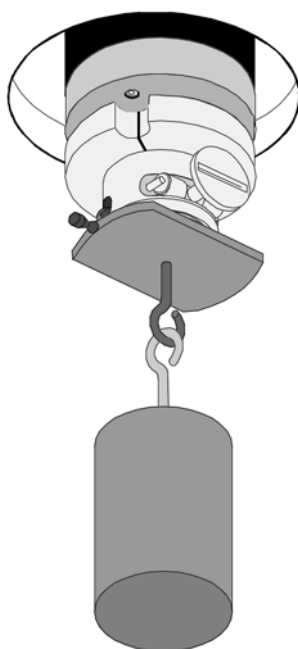

Figure 5-6. Applying Normal Force Using the Calibration Weight.
**NOTE:** Do not hang any weights until after at least one (1) zero reading has been taken.
8. Hang the weight specified in Table 5-4 (depending on the transducer in use) from the hook on the bottom of the calibration tool (Figure 5-6). Ensure that the weight is free to hang without obstruction, and that the weight is steady (not swinging from side-to-side).